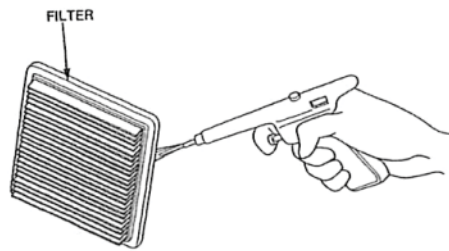

Figure 17
4. Remove the air filter. Tap the filter several times on a hard surface to remove excess dirt, or blow compressed air not exceeding 30 PSI through the filter from the clean side that faces the engine. (Fig 17) *Never try to brush off dirt.*